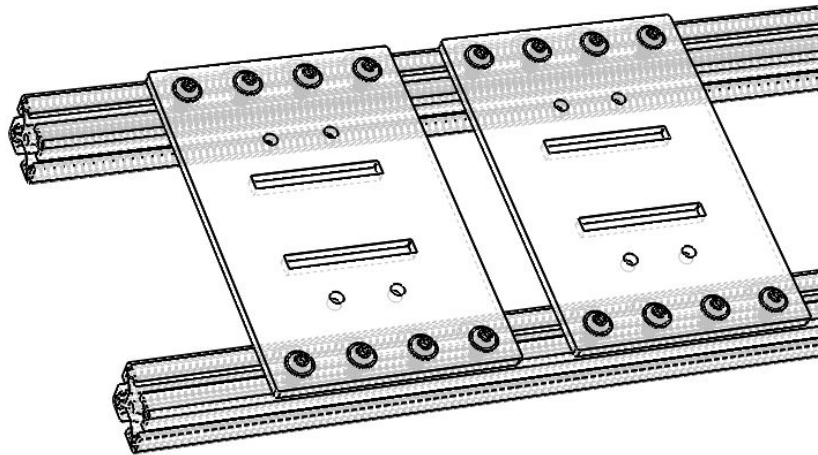

Fig. 3.9: Two Fixture base plates (#KGTP) fixed on the two beams (#HJXQ) with end feed fasteners (#TEBK)
- Rotate the end-feed fastener screws (#KEDB) into the female end-feed fastener part through the fixture base plate. Adjust to an appropriate position for two plates, and then tighten all 16 screws, as shown in Fig. 3.9.